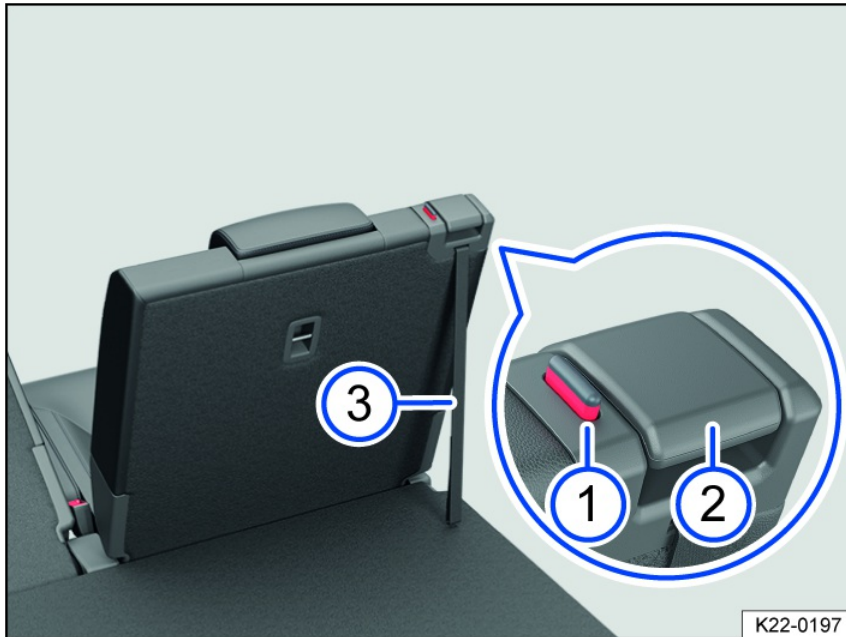

Fig. 81 Third row seat: folding the rear seat into the cargo floor position.
8. To release the rear seat backrest, pull the release lever *fig. 81* all the way up.
Or: To fold back the rear seat backrest from the trunk area, pull on the loop on the rear seat backrest *fig. 81*.
The red marking on the release lever *fig. 81* must no longer be visible.
- A red marking on the release lever fig. 81 indicates that the rear seat backrest is not latched. The red marking must not be visible when the backrest is latched.